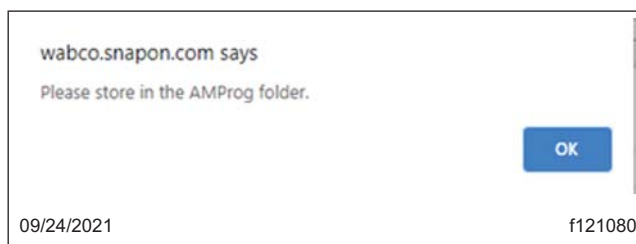

Fig. 10, Storage Location Recommendation
11. A message window will appear recommending the file storage location. Select 'OK' to continue. See Fig. 10.